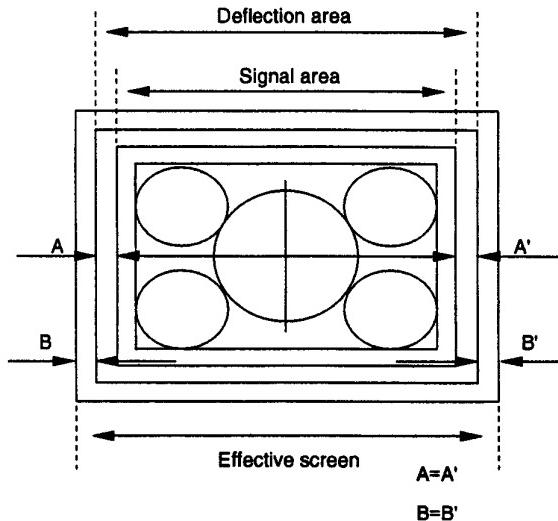

Fig.5-4
7. Adjust **60 VIDEO PHASE** so that the signal area will be in the center (**A = A'**) of the deflection area. (Fig.5-4)